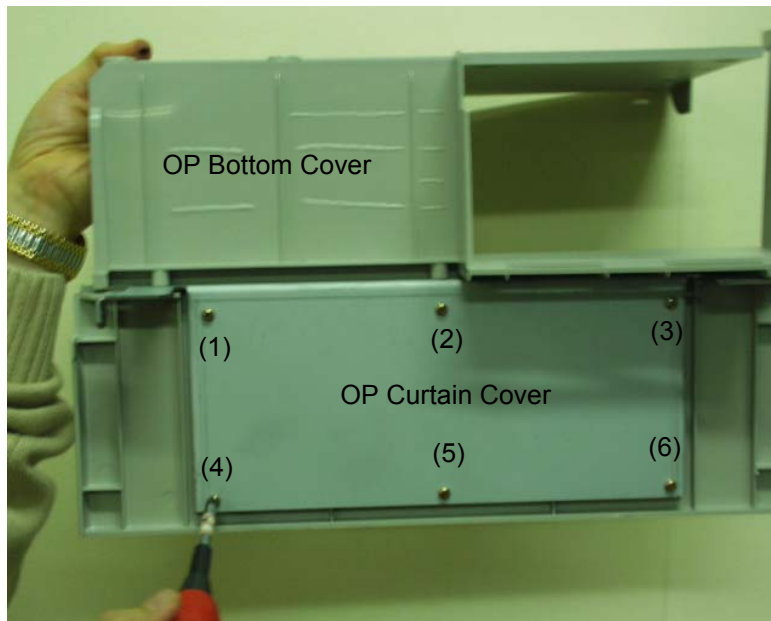

Figure 8-92 Unscrew 6 screws to remove the OP Curtain Cover
- 8.) Unscrew six screws from the OP Curtain Cover. Refer to Figure 8-92 on page 8-46 .